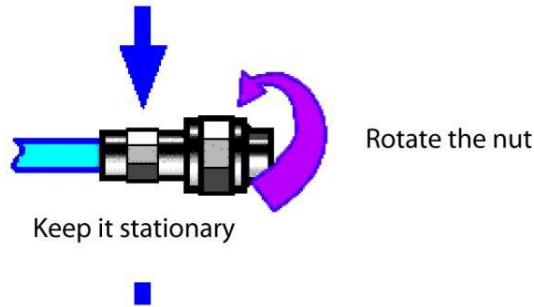

Fig. 3.5 Diagram of connector rotation
**Step 2.** as shown in Fig. 3.5, horizontally move two connectors to make them connected smoothly. Tighten the connector nut by means of rotation (do not rotate the connector). Avoid relative rotation of connectors during connection.